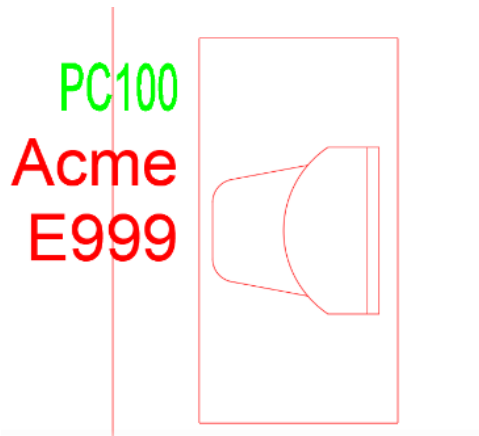

Figure 10.20: The PC\_Attributes block, with the edited PC\_ID attribute
6. After seeing the **PC\_ID** attribute display in green, click on **OK** to close **Enhanced Attribute Editor**. You now have a block with an edited attribute, as shown in *Figure 10.20*.